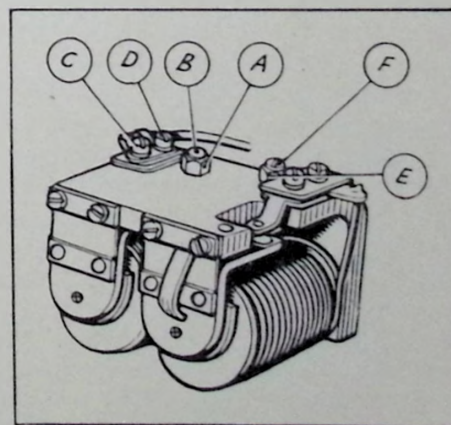

Fig. 4. Cut out and Regulator Assembly.
- (3) **Cleaning Contacts.** After long periods of service it may be found necessary to clean the vibrating contacts of the regulator. These are made accessible by slackening the screws securing the plate carrying the fixed contact. It will be necessary to slacken the upper screw (C), Fig. 4, Page JX3, a little more than the lower (D) so that the contact plate can be swung outwards. Clean the contacts by means of fine carborundum stone or fine emery cloth. Carefully wipe away all traces of dirt or other foreign matter. Finally tighten the securing screws.